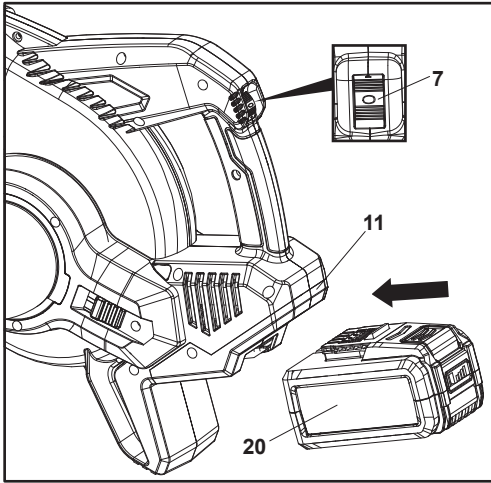

Fig. 6
1. Ensure that the on/off switch (7) is at "0" position and the tool is switched off.
2. Align the battery pack (20) with the sliding slots of the battery docking port (11) and slide the battery pack (20) in to attach it. Ensure it clicks in place (Fig. 6).